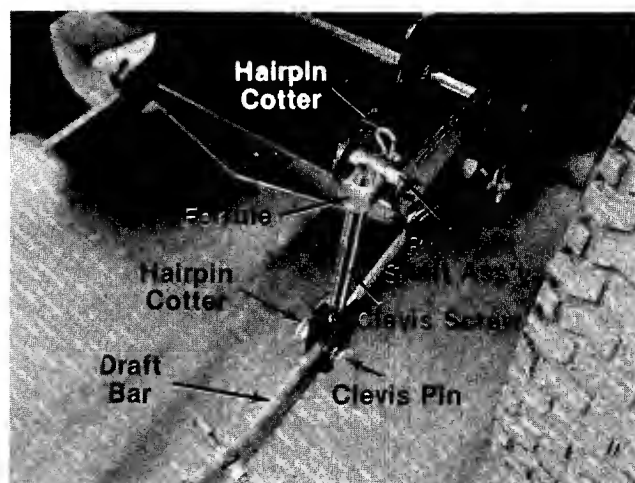

FIGURE 6.
4. Thread the ferrule onto the clevis screw until approximately a half inch of thread is showing above the ferrule. See figure 6.